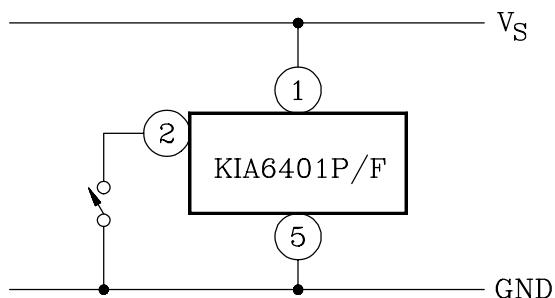
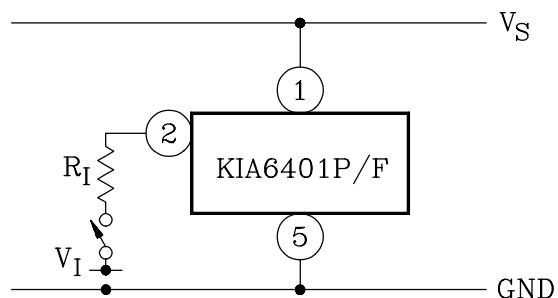

Fig. 1a
Fig. 1b     $0 \leq V_I \leq 0.5V$
Usually PIN ② is used at an open state, but in the KIA6401P/F the TRIGGER IN terminal can prohibit oscillation and also can change the initiation supply voltage ( $V_{si}$ ). When the KIA6401P/F is oscillating ( $V_{sus} < V_s$ ), if PIN② is connected to GND as shown in Fig. 1a, the KIA6401P/F can stop oscillating. Further, the oscillation of the KIA6401P/F can be stopped by connecting PIN② to voltage  $V_I$  through the resistor  $R_I$  as shown in Fig. 1b.